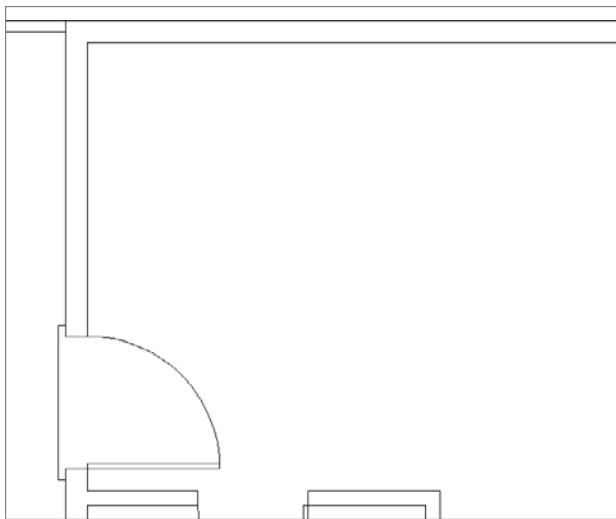

FIGURE 5.41 Zoom into the kitchen area.
2. Use a zoom window to zoom your view so that it is about the same magnification as Figure 5.41.